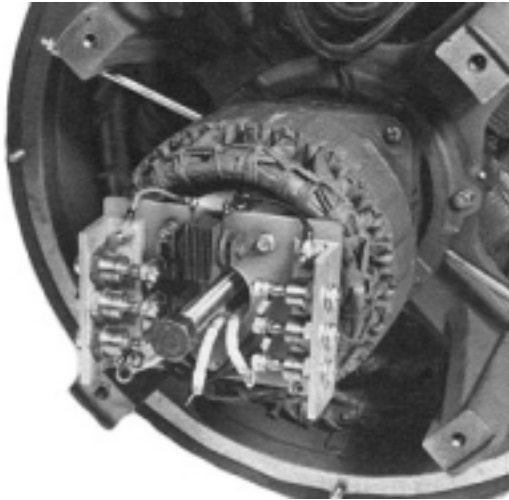

Figure 6-12
3. Use a six inch, 3/4-16NF, cap screw for a puller (See section 9.) The hole that the mounting bolt goes through is threaded. Screw the pull bolt into the hole and it will push against the end of the shaft. (Figure 6-12.)